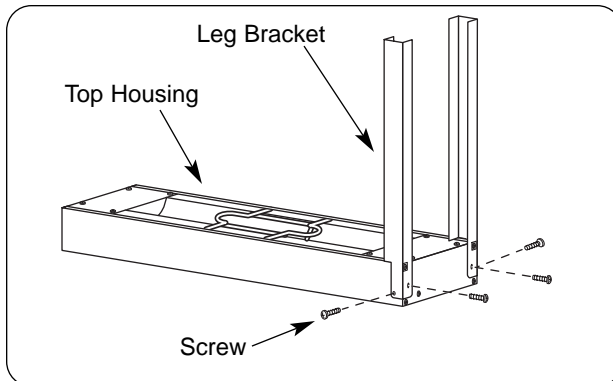

Figure 13. Assembly of Top Housing and Leg Bracket
4. Using the four screws provided attach both leg brackets to the top housing. (See Figure 13.)